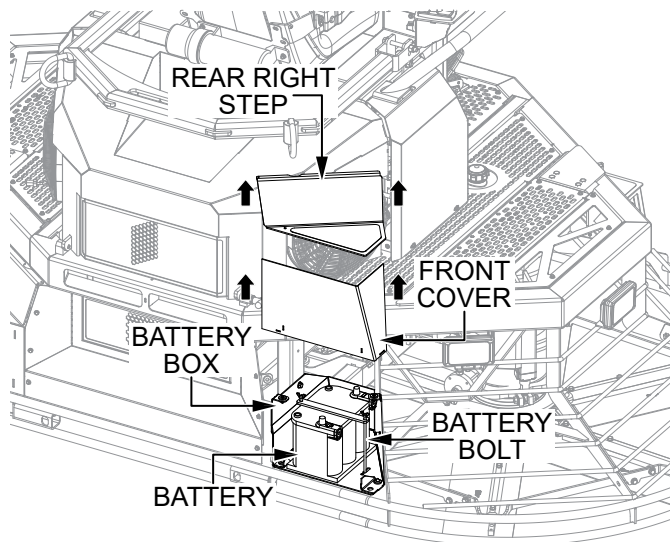

Figure 18. Battery Access
1. To access the battery, pull upward on the rear right step (Figure 18) to remove it. Set the step aside.
2. Remove the battery box front cover (Figure 18) and set it aside.
3. Make sure the battery is well seated in the battery box and secured with the two battery bolts (Figure 18).